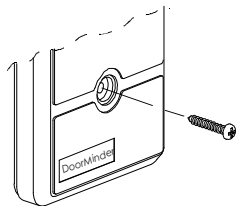

Figure 1. Cover Removal
A. Remove the screw that secures the cover to the base and remove the cover as shown in Figure 1.